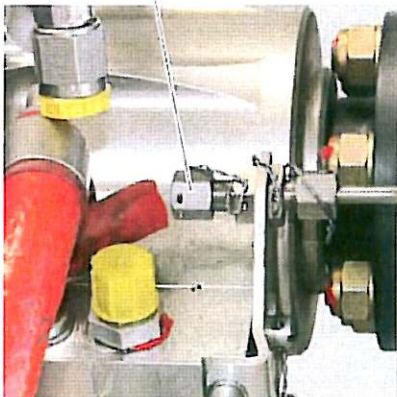
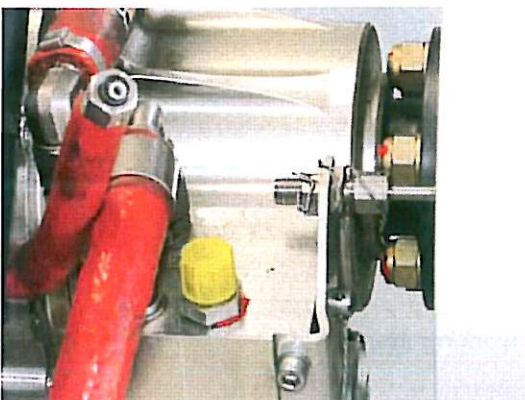

Figure 1
Figure 2
1. Detach the union nut of the hose line of the de-icing system. Use an appropriate plug to seal the hose line. See Figure 1 and Figure 2.